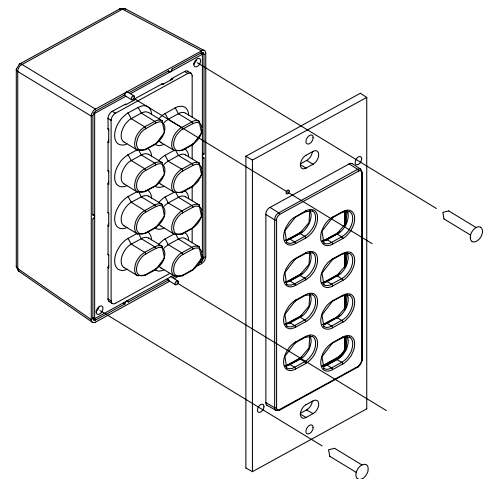

Figure 2 – Changing Switch Color
1. The bezel attaches to the HAI UPB™ 8-Button House Controller with two small Philips head screws: one on the upper-right corner and one on the lower-left corner (Figure 2).